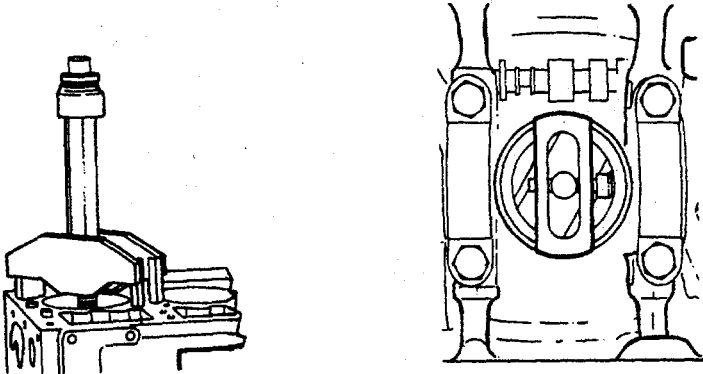

FIGURE 4-49. Parallel Plate Type Puller.
- 3 With liner puller shown in Figure 4-49, the puller plate must be parallel to the main bearing saddles and it must not overload the liner outside diameter.